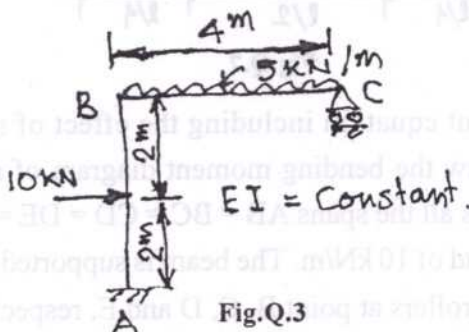

Fig.Q.3
3. Calculate the redundant reaction at C and also draw BM diagram in Fig.Q.3.